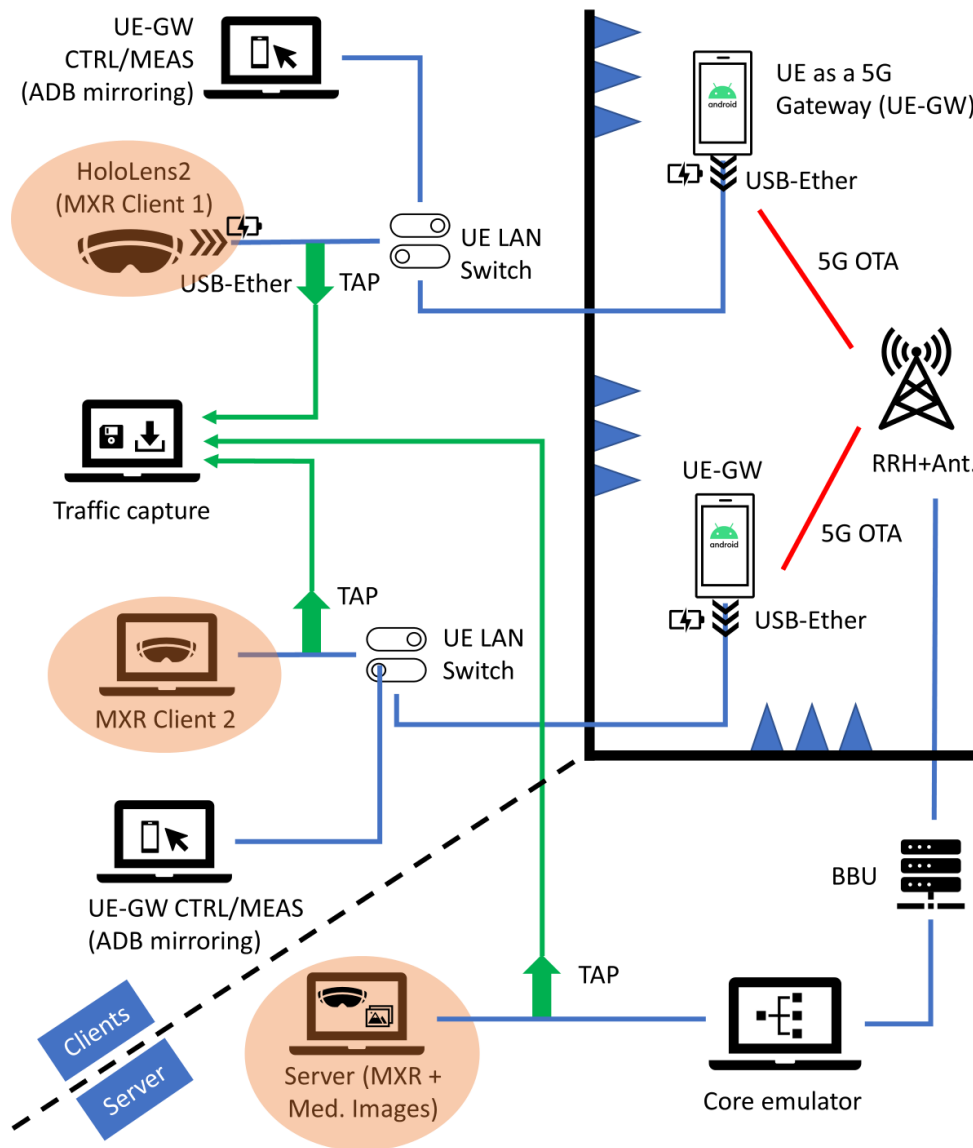

Figure 5. An example of integrating MXR device components (user nodes and the server node) in the 5G testbed.
In this example as shown in Fig. 5, we demonstrate a possible way of connecting these nodes to the tested end-to-end 5G links. Specifically, the two types of MXR client nodes, i.e., the headset and the computer-based MXR client, are considered in this example where they use 5G smartphones as the gateways to carry the data over 5G; the server-side applications including the real-time virtual session updates and the medical data inquiries are deployed on a test computer that operates as a data network (DN) node per the TRUST network architecture. The end-to-end traffic flows in the network can be monitored and captured at the individual nodes either by in-app measurement tools or by the third-party network test access point (TAP) equipment.